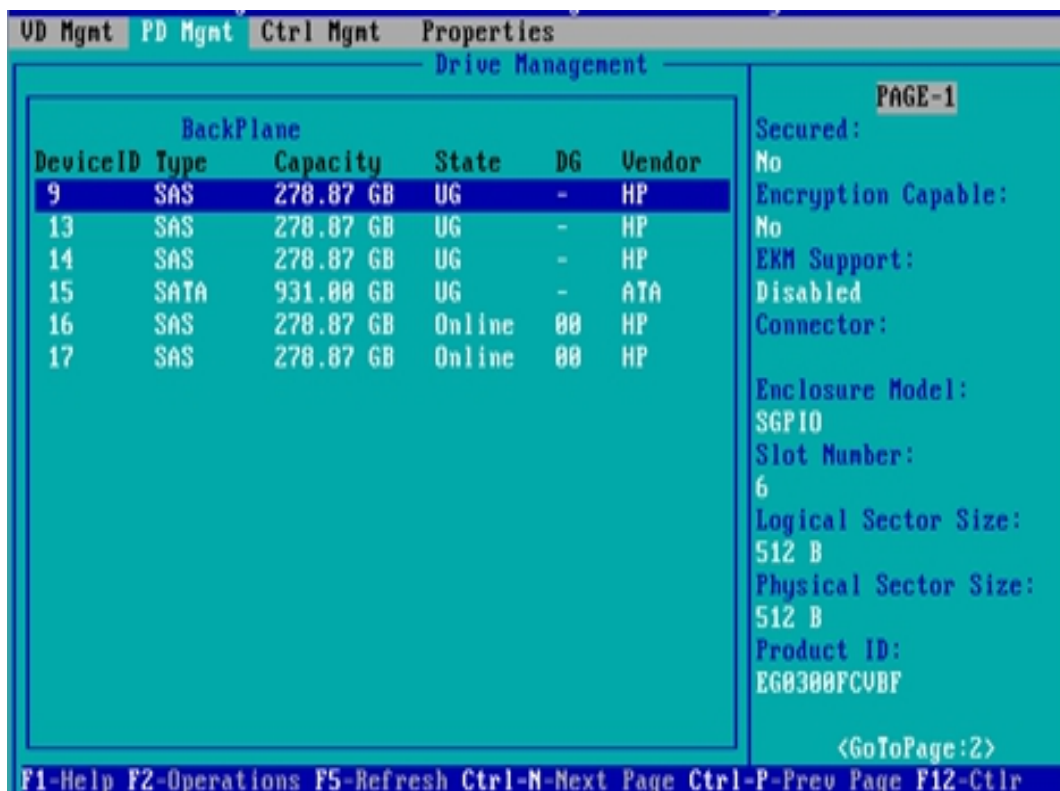

Figure 6-115
- a) As shown in figure 6-115, select the disk to be configured as a global hot spare in the PD MGMT interface, and press F2.
- ✧ Figure 6-115 selecting disks to be configured as global hot spare